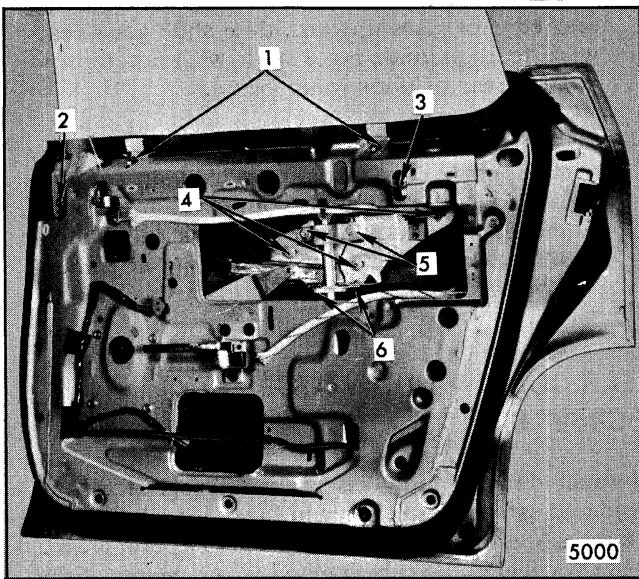
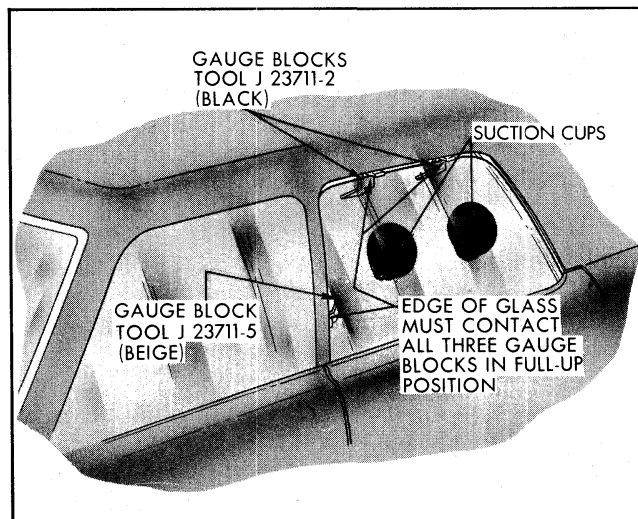

Fig. 5-151-Rear Door Window Removal and Adjustment - "6CB69" Styles
Fig. 5-152-Rear Door Window Alignment - "6CB69" Style
1. **WINDOW NOT PARALLEL WITH SIDE ROOF RAIL WEATHERSTRIP** - A rotated window condition (glass cocked in opening) can be corrected by loosening front and rear up-travel stops ("2" and "3", Fig. 5-151) and lower sash upper guide ("5", Fig. 5-151). Position glass with upper edge parallel to side roof rail weatherstrip. Then tighten lower sash upper guide attaching nuts to 72 inch-pounds and raise glass to establish proper contact with side roof rail weatherstrip. Torque up-travel stop screws to 60 to 90 inch-pounds.
2. **WINDOW TOO FAR INBOARD OR OUTBOARD ALONG UPPER EDGE** - Loosen belt trim support retainers ("1", Fig. 5-151) and lower sash lower guide ("6", Fig. 5-151) and position glass inboard or outboard as required. Outboard adjustment of lower guide moves upper edge of glass inboard. Conversely, inboard adjustment moves upper edge of glass outboard. With glass in a full-up position, move trim support retainers against inner surface of glass. Torque previously loosened attachments to 60 to 90 inch-pounds.
("2" and "3", Fig. 5-151) and operate window to desired position to establish proper contact with side roof rail weatherstrip. Torque up-travel stop screws to 60 to 90 inch- pounds.
4. **WINDOW TOO FAR FORWARD OR REARWARD** - Loosen lower sash channel guide plate attaching nuts ("4", Fig. 5-151) and reposition glass as necessary. Torque attaching nuts to 60 to 90 inch-pounds.
3. Lower rear door window and install gauge blocks, tool J-23711-2 (black), or equivalent into the side roof rail weatherstrip retainer above the upper front and rear corners of the glass as shown in Figure 5-152. Then install gauge block, tool J-23711-5 (beige), or equivalent into the center pillar retainer above the beltline. Raise door window and install glass suction cups on interior surface of glass to enable adjuster to shift glass when making adjustments with door in a closed position (Fig. 5-152).
4. Working from inside the body with the door in the closed position, loosen front and rear up-travel stops ("2" and "3", Fig. 5-151) and belt trim support retainers ("1", Fig. 5-151).
If upper and forward edge of glass contact all three gauge blocks simultaneously (as shown in Fig. 5-152), proceed with step 6. If, however, upper and forward edge of glass does not contact all three blocks simultaneously, completely loosen lower sash channel guide plate ("4", Fig. 5-151) and lower sash upper guide assembly ("5", Fig. 5-151) and manipulate the glass by hand until upper and forward edge of glass contacts all three gauge blocks in the full-up position (as shown in Fig. 5-152). Tighten guide plate and upper guide assembly attachments.
6. Loosen lower sash lower guide assembly ("6", Fig. 5-151). Apply firm outboard pressure against the bottom of the lower sash guide plate assembly to remove slack in the system and to hold the upper inner edge of glass inboard against outer edge of gauge blocks. Then tighten lower guide attaching screws.
7. With the glass in the full-up position against the upper gauge blocks as shown in Figure 5-152, tighten adjustable up-travel stops. Adjust belt trim support retainers for proper pressure against glass.
2. Loosen belt trim support retainer attachments ("1", Fig. 5-151) and remove front and rear up-travel stops ("2 and 3", Fig. 5-151).
3. Remove lower sash guide plate assembly to glass attaching stud nuts ("4", Fig. 5-151). Tilt upper edge of glass inboard to disengage glass from guide plate, then remove the window from the door by lifting straight-up.